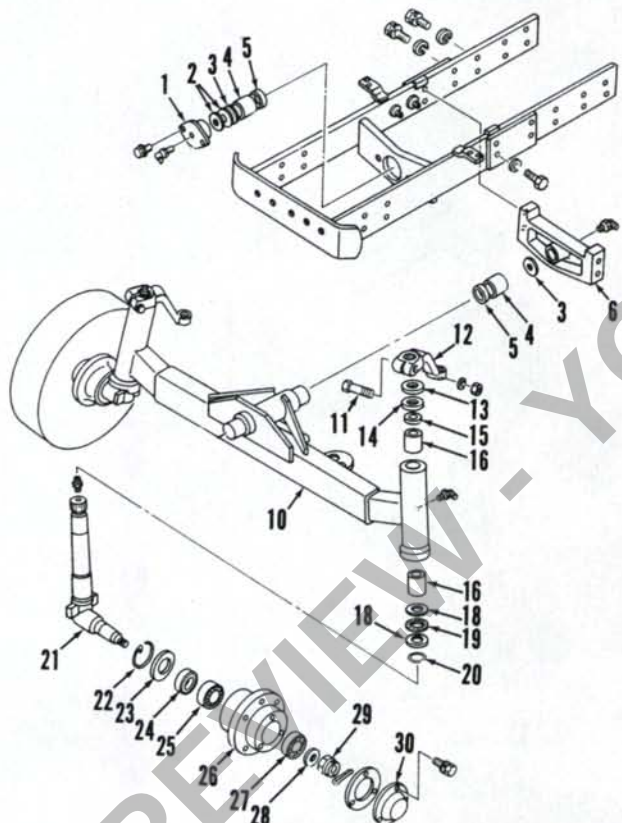

Fig. 3—Exploded view of fixed tread width front axle assembly used on Model 1320.
To remove front axle assembly, support tractor behind the axle and remove front wheels. Disconnect hoses from power steering cylinder and plug all openings. Unbolt and remove axle pivot front bearing retainer (1—Fig. 3, 4 or 5). Remove retaining cap screws from rear bearing support (6), then move axle rearward from front bearing support and lower axle from tractor.